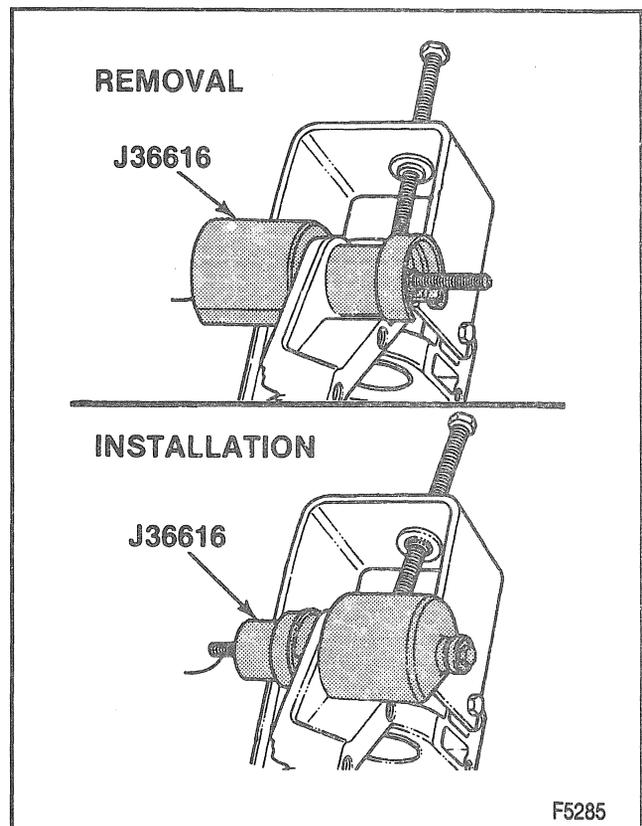

Figure 19—Removing/Installing Carrier Case Bushings
- Carrier bushing using J 36616 (Figure 19).